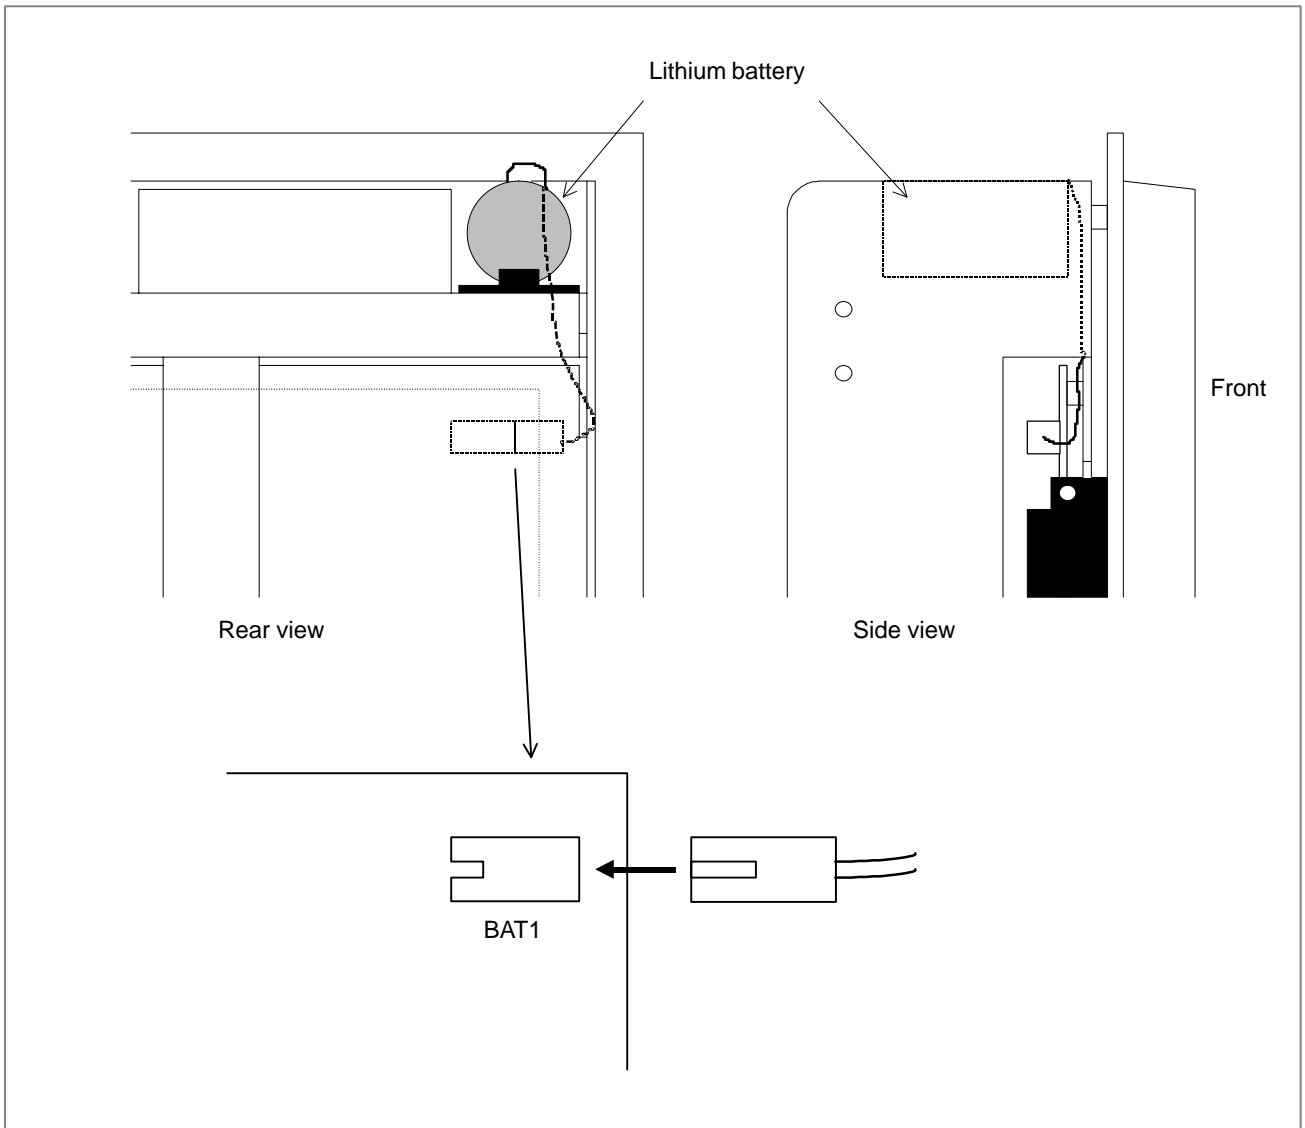

Fig. 1.3 Lithium battery connection
- (1) To guard against the possible loss or destruction of BIOS parameters, write down the BIOS parameter values.
- (2) Obtain a new lithium battery (A02B-0200-K102).
- (3) After power has been supplied for at least five seconds, turn off the power to PANEL *i*. Remove the intelligent terminal from the panel so that replacement work can be done from the rear of the intelligent terminal.
- (4) Detach the connector of the lithium battery, and remove the battery from the battery holder.
- (5) Run the cable for the new lithium battery as shown in the Fig. 1.3.
- (6) Attach the connector, and place the battery in the battery holder.
- (7) Install PANEL *i* again.
- (8) Turn on the power, and check that the BIOS parameters are maintained (BIOS setup is not activated forcibly).